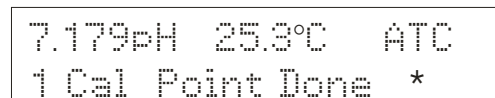

Figure 22
3. Press **ENTER** when first custom pH buffer is keyed in. The display will read *1 Point Cal Done \**. See **Figure 22**.